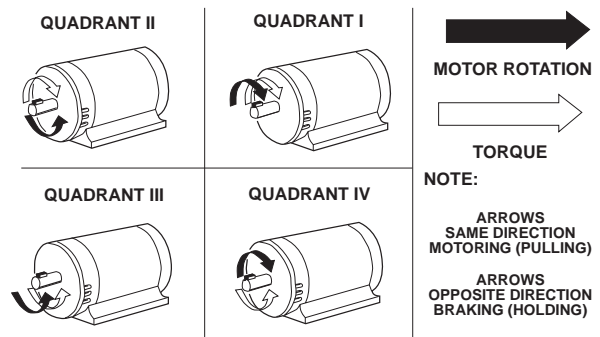

FIGURE 4.
**Nonregenerative DC Drives**—Nonregenerative DC drives are the most conventional type in common usage. In their most basic form they are able to control motor speed and torque in one direction only as shown by Quadrant I in Figure 4. The addition of an electromechanical (magnetic) armature
**Regenerative DC Drives**—Regenerative adjustable speed drives, also known as four-quadrant drives, are capable of controlling not only the speed and direction of motor rotation, but also the direction of motor torque. This is illustrated by Figure 4.